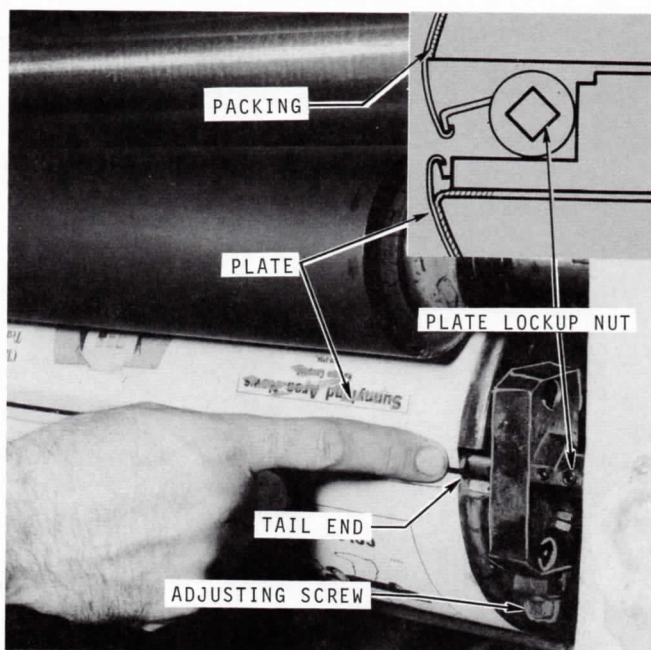

Figure 14
4. Turn the adjusting screw on the bottom of the block on both ends of the plate cylinder until the packing can be inserted under the tail bar as shown in Figure 14.
### Installing Plates (Fig. 14)
5. Remove the wrench and inch the press around one full revolution. The lockup automatically locks as the cylinder rotates. Check that the head end of the plate is gripped firmly and the plate is tight on the cylinder. The mounted plate is shown in Figure 14.